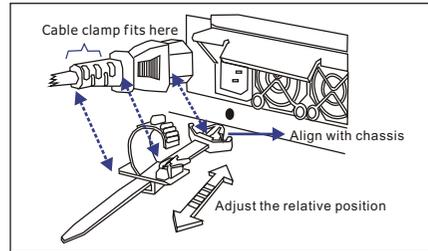

Figure 7: Power Cord, Cable Clamp, and Cable Strap Positions
- Step 2.** Connect a power cord to a subsystem power socket so that you can determine the correct position of the cable clamp. **Figure 7** shows the relative positions of a power cord, the cable clamp, and cable strap. Press down the release tab to adjust the position of the cable clamp along the strap.